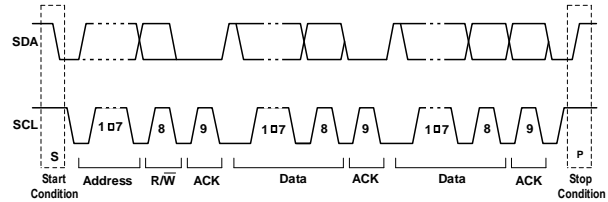

Figure 10: Complete Data Transfer
Figure 10 shows the data transfer format. After the start (S) condition, a slave address is sent. This address is 7 bits long followed by an eighth bit, which is a data direction bit (R/W). A 0 indicates a transmission (write), while a 1 indicates a request for data (read). A data transfer is always terminated by a stop (P)
condition generated by the master. However, if a master must continue to communicate on the bus, it can generate a repeated start (Sr) condition and address another slave without first generating a stop condition (see Figure 10).